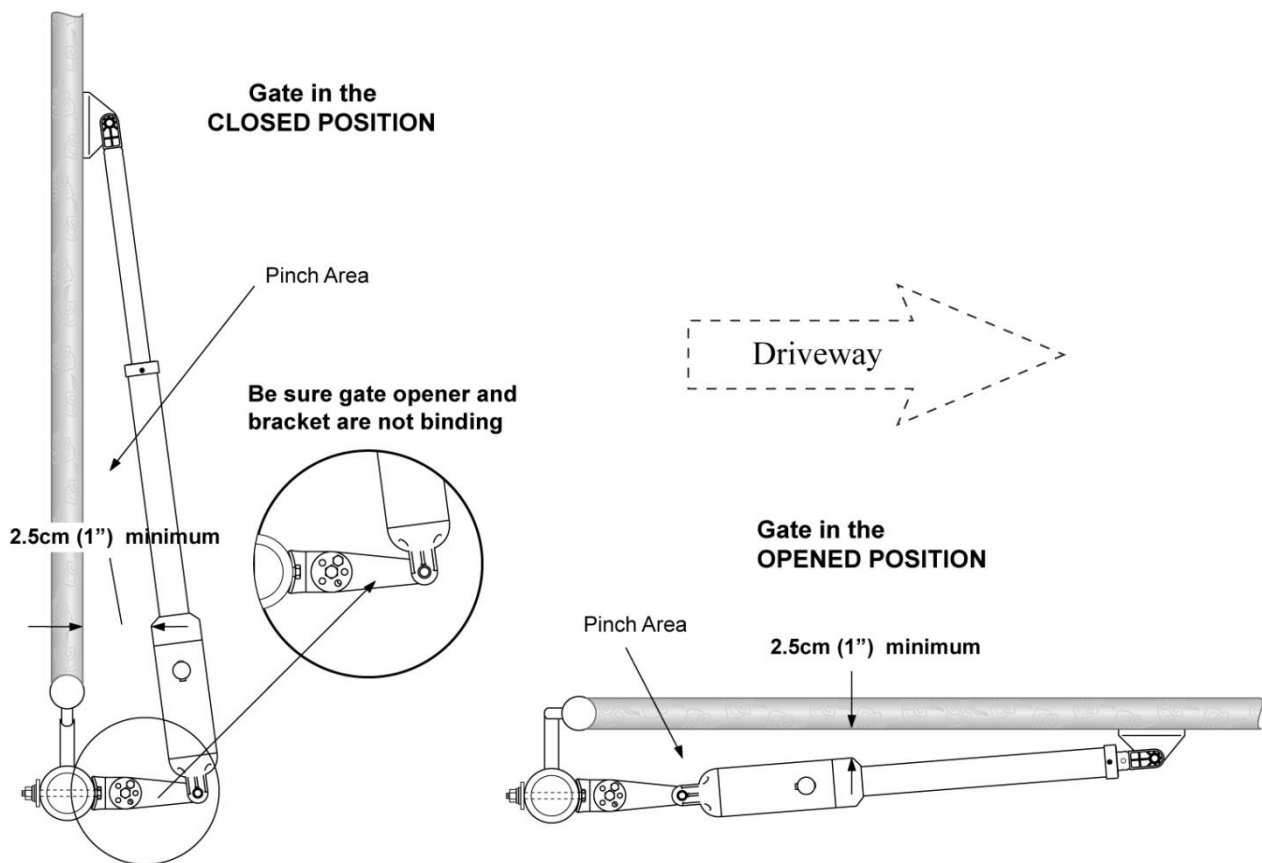

Figure 10
5. Check that there is at least 2.5cm between the gate and the gate arm as per Figure 10. If clearance is too low, rotate the Post Pivot Bracket and/or move the Post Bracket Assembly.